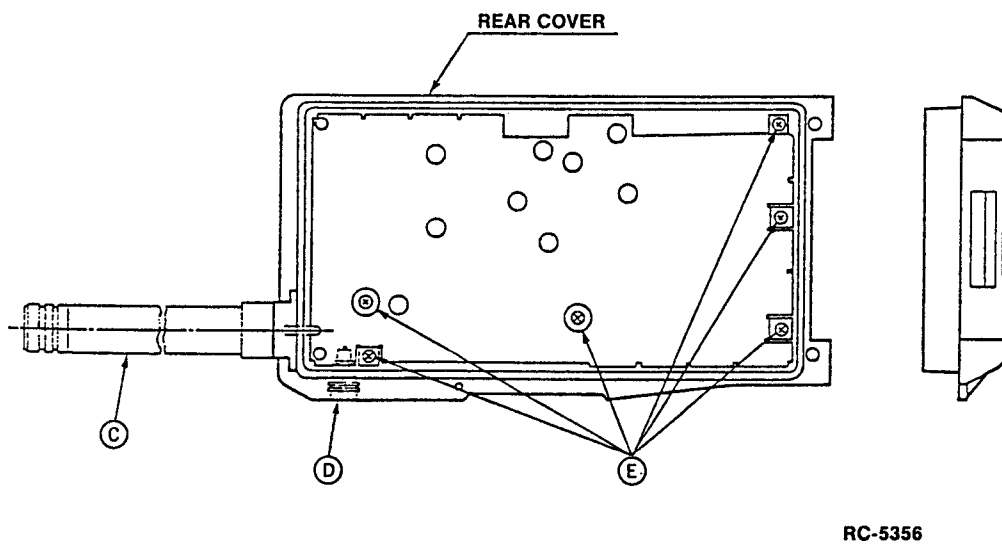

Figure 13 - Disassembly Step 2
To remove the Radio Board, unscrew and remove the antenna at (C) and RF connector at (D). Remove the six screws at (E) using the Phillips-head screwdriver. The radio portion can now be detached from the rear cover. (See Figure 13)